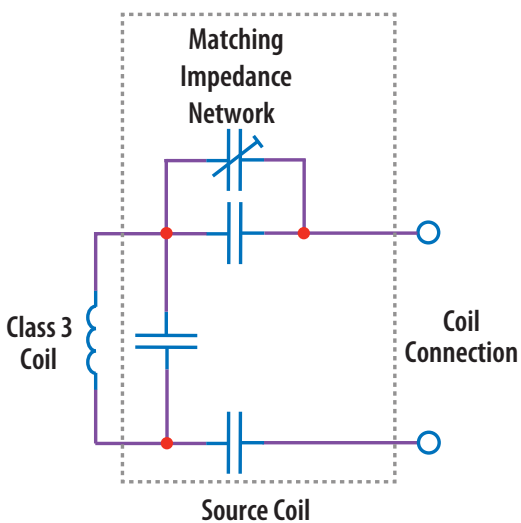

Figure 4: Basic schematic of the A4WP Class 3 source coil
Figure 4 shows the schematic for the source coil which is Class 3 A4WP compliant. The matching network includes both series and shunt tuning. The matching network series tuning is differential to allow balanced connection and voltage reduction for the capacitors.
1. When measuring the high frequency content switch-node (Source Coil Voltage), care must be taken to avoid long ground leads. An oscilloscope probe connection (preferred method) has been built into the board to simplify the measurement of the Source Coil voltage (shown in Figure 4).